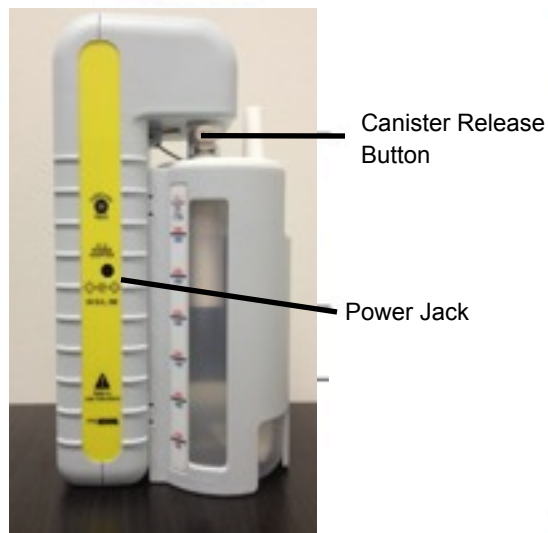

Figure 3
1. Ensure that a canister is properly inserted in the receptacle located on the back side of the therapy unit (see Fig 3). The canister should “snap” into place and lock. The canister release button may need to be depressed to permit canister insertion. **NOTE:** Always use a new canister with a new patient.